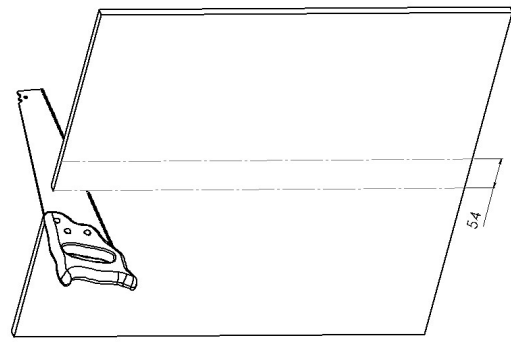

FIG. 4
- Using a pencil, measure out the dimensions needed on the ceiling tile. (Fig. 4)